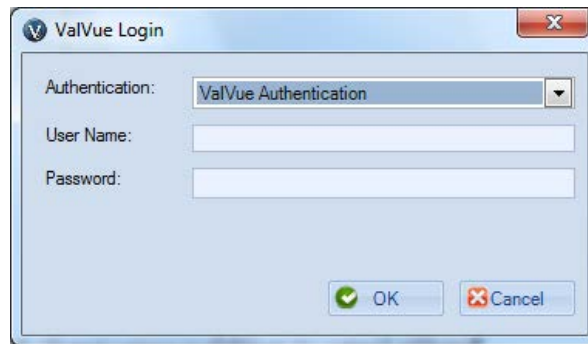

Figure 9 - ValVue Login
1. Select Start > All Programs > Masoneilan > ValVue3 > ValVue. Figure 9 appears.